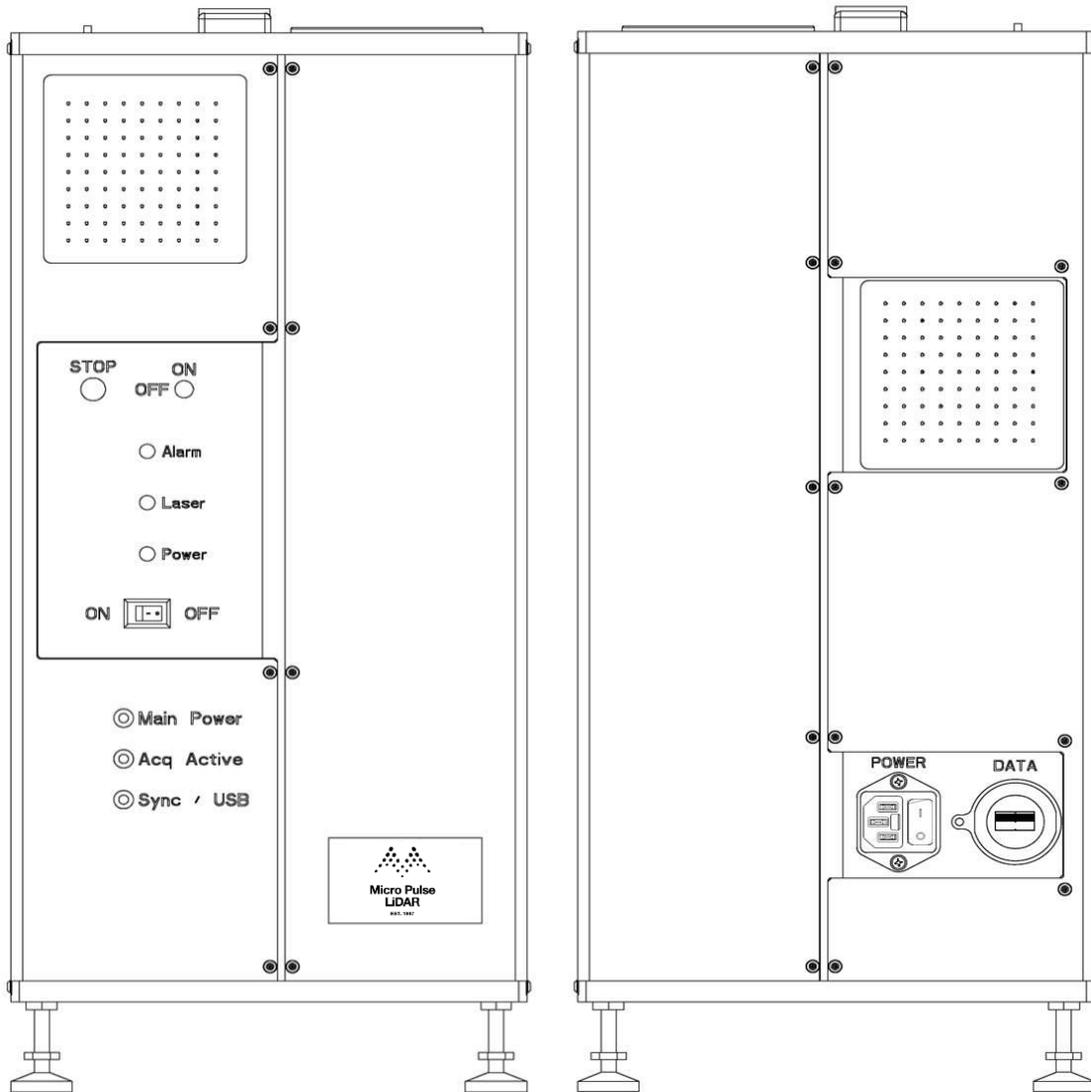

Figure 2: MiniMPL Front (Left) and Rear (Right) Panel Views
This section describes the systematic installation of the MiniMPL system. Figure 2 shows the connectors and controls located on the front and rear panel views of the MiniMPL instrument.
3. The foot located below the USB data port on the rear of the MiniMPL (the far right foot in Figure 2) can only be threaded in so far before coming to a hard stop. **DO NOT** force the foot past this stop by excessive tightening. Damage to the MiniMPL chassis and cover may result.